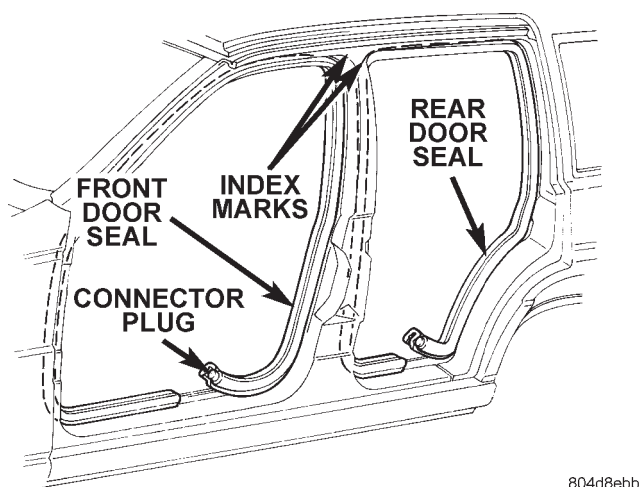

Fig. 25
- (1) Position weatherstrip at corners using paint dots as alignment points.
- (2) Move upward and around edge of door opening. Seat seal on flange (Fig. 25).
- (3) Engage connector plug with each end of weatherstrip at bottom of door opening.
- (4) Install B-pillar lower trim panel.
- (5) Install B-pillar upper trim panel.
- (6) Install A-pillar trim panel.